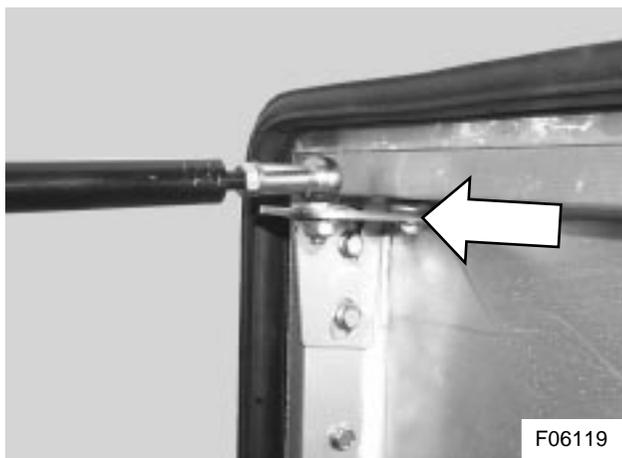

Figure 35: Additional mounting bolt and spacer.
This bracket has an extra mounting hole in the top flange. With a scribe, mark the outline of this hole on the doorframe channel (see Figure 35, page 27). Remove the bracket.
- 4) Center punch, drill and tap a hole in the scribed area on the channel, to accept a M6x1x16 mm flange bolt. Reinstall the bracket, with spacer VH 10786907 fitted between bracket and upper channel as shown in Figure 35. Run-up the bolts and tighten to a torque of 6.5 ft.lbf (9 Nm).